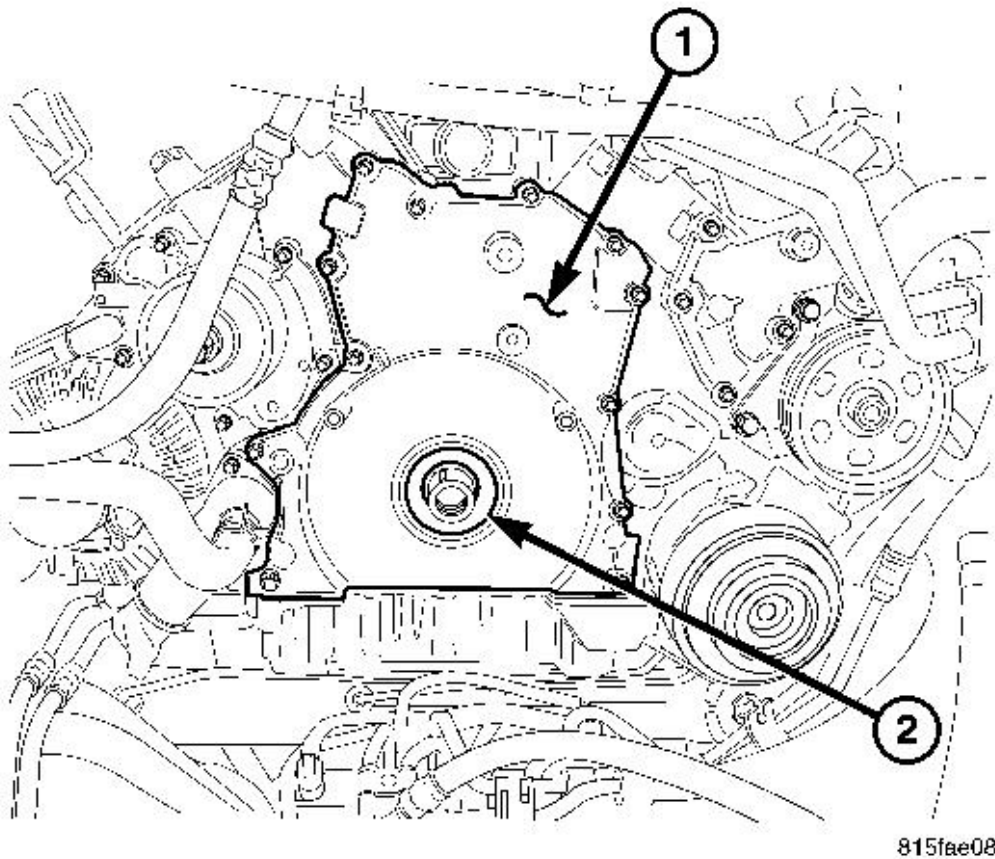

Fig. 291: Front Timing Cover & Crankshaft Seal
2. Install crankshaft oil seal (2) using Installer 8936A. See **Fig. 291**.